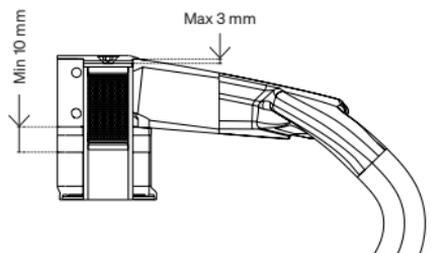

Fig. 5.2.1
- 1 • The expander must have a length enough to completely cover the handlebar clamp area and to exceed for at least 10mm the stem clamp height (Fig. 5.2.1);
- 2 • To allow the headset adjustment, the gap between the upper edge of the handlebar and the upper edge of the fork steerer must not exceed the value of 3mm (Fig. 5.2.1);